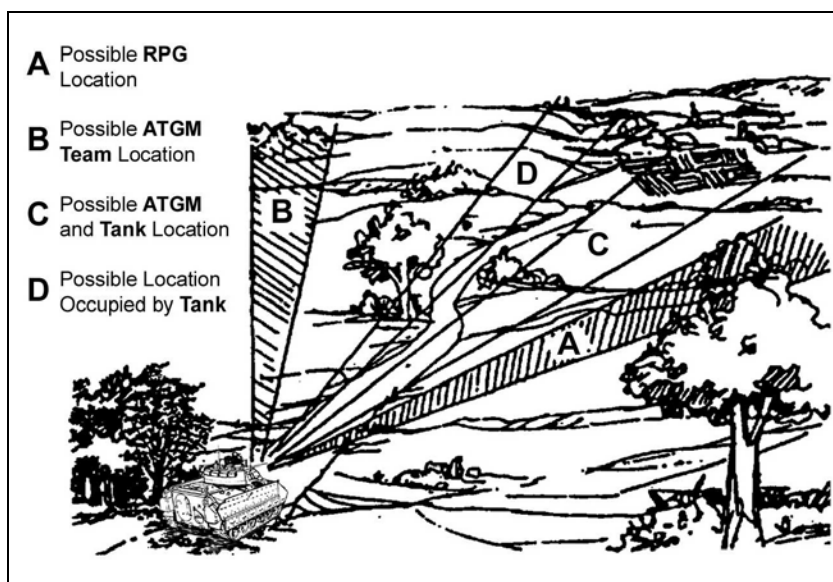

Figure 6-5. Detailed ground search.
(3) **Detailed Search.** If neither the rapid nor the slow scan reveals a target, the crew uses the vehicle optics (day, thermal, or FLIR mode) to search carefully and deliberately, while stationary or moving (Figure 6-5, page 6-4). They also use this method to search small areas, suspected avenues of approach, or detected targets in detail.